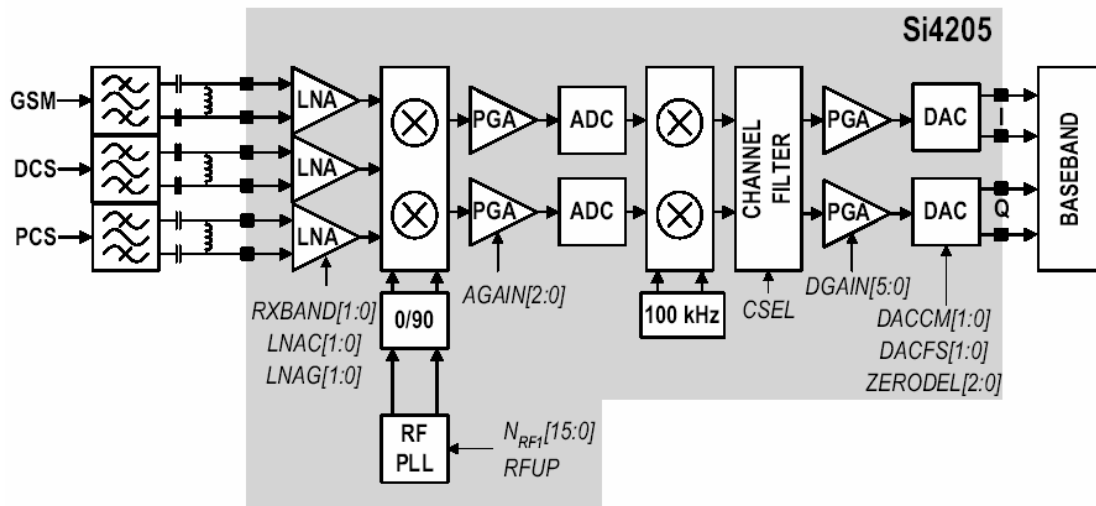

Figure. 3-2 SI4205 RECEIVER PARTIAGRAM
The LNA inputs are matched to the 150 $\Omega$  balanced output SAW filters through external LC matching networks. The LNA gain is controlled with the LNAG[1:0] and LNAC[1:0] bits in register 05h (Figure 3-2).
A quadrature image-reject mixer downconverts the RF signal to a 100KHz intermediate frequency (IF) with the RFLO from the frequency synthesizer. The RFLO frequency is between 1737.8 to 1989.9 MHz, and is internally divided by 2 for GSM 850 and E-GSM 900 modes. The mixer output is amplified with an analog programmable gain amplifier (PGA), which is controlled with the AGAIN[2:0] bits in register 05h (Figure3-2). The quadrature IF signal is digitized with high resolution A/D converters(ADCs).